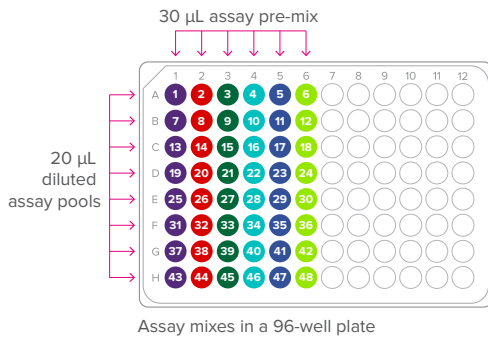

Figure 2. Layout of 20X assay mixes (per-well transfer volumes)
- 2 In a DNA-free hood, combine the components shown in Table 3 in the wells of a new PCR plate according to the layout shown in Figure 2.